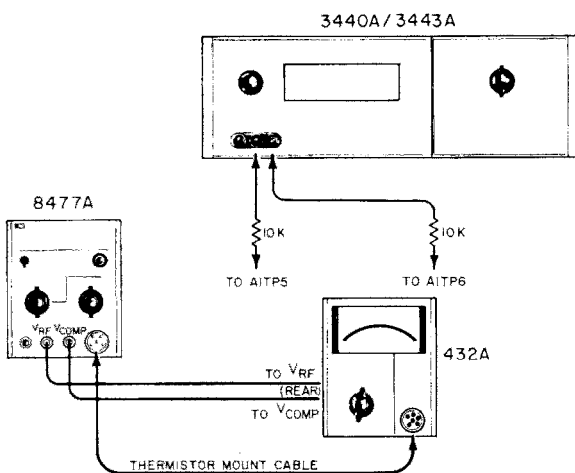

Figure 5-3. Bridge Amplifier Test
- (1) Turn instrument off.
- (2) Rotate the meter mechanical adjustment screw clockwise until the meter pointer is to the left of zero and moving up the scale toward zero. Stop when the pointer is exactly over the zero mark. If the pointer overshoots, repeat step 2.
- (3) When the pointer is exactly on zero, rotate the adjustment screw approximately 3 degrees counterclockwise. This frees the adjustment screw from the meter suspension. If the pointer moves during this step, repeat steps 2 and 3.
- a. Connect equipment as shown in Figure 5-3.